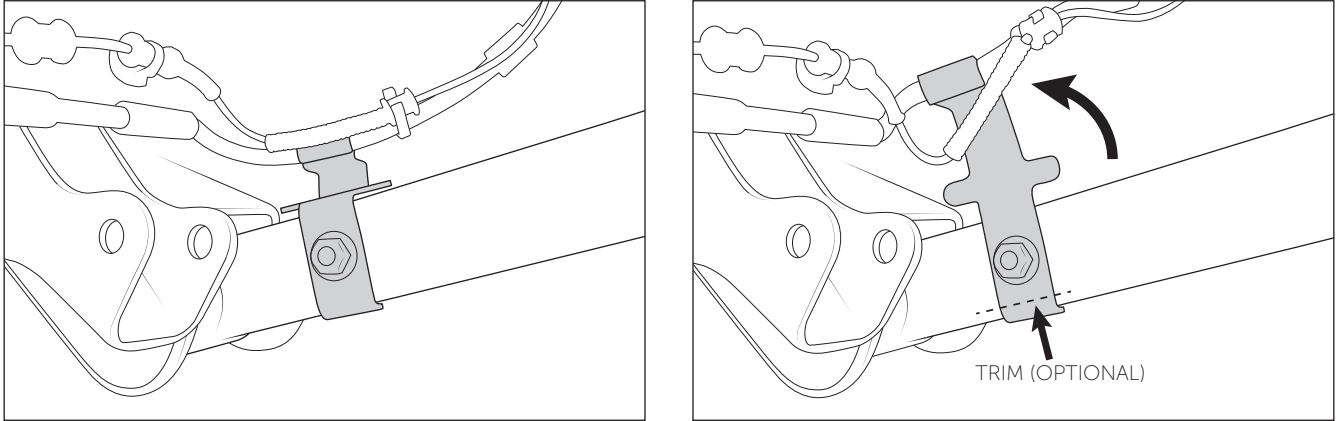

Figure 15: Before (left) After (right)
7. Bend brake line brackets on lower control arms flat/up to allow extra travel relative to frame (Fig 15). On vehicles that will be rock crawling, AEV suggests trimming off the bottom tab of these brackets below the mounting hole to eliminate a snag point.